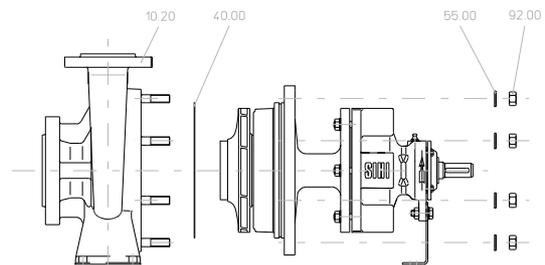

Fig.1
3. Withdraw the complete back pull-out unit from pump casing 10.20 and remove flat gasket 40.00 (fig. 1)